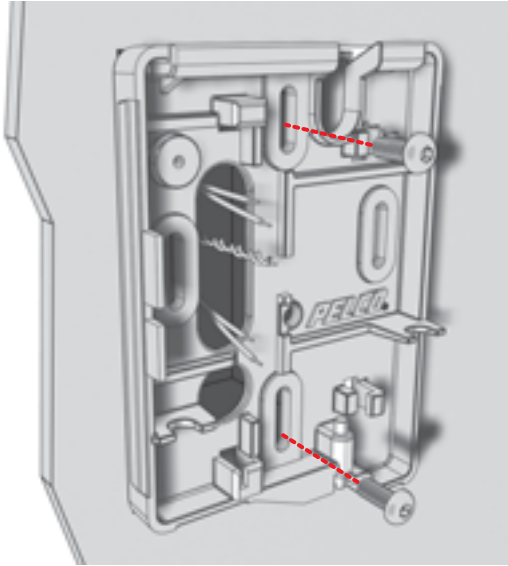

Figure 2. Mounting the Adapter Plate
2. Thread the 24 VAC power, video (coax or UTP), and control wiring through the large access hole in the adapter plate. Then attach the adapter plate to the mounting surface using either the top/bottom or left/right pair of mounting holes. (The top/bottom pair is shown in Figure 2.)